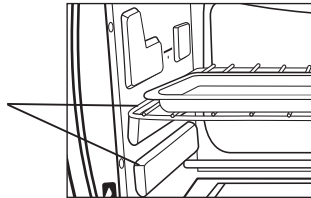

Figure 11
- To accommodate a wide variety of foods the oven has two rack positions. The rack can be inserted in the oven in the upper or lower rack guides. The rack will fit into either of the rack guides inside of the Countertop Oven. (See Figure 11)